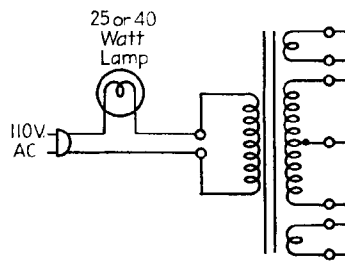

FIG. 8-5.—Checking the power transformer.
2. Plug the radio into an outlet that contains an ordinary 25- or 40-watt lamp in series with the line, as shown in Fig. 8-5.